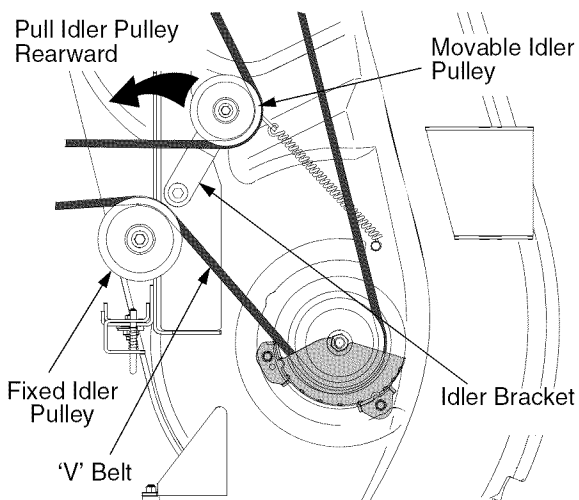

Figure 34
- Working from the middle of the tractor, pivot the idler bracket and movable idler pulley rearward away from the backside of the 'V' belt just far enough to lift the belt up and over the idler pulley. See Figure 34.
- Route the backside of the belt around the fixed idler pulley of the deck. Refer to Figure 34.
- Working from the middle of the tractor, pivot the idler bracket/movable pulley rearward against the spring tension and slide the backside of the belt onto the movable idler pulley. Refer to Figure 34.
- Make certain the belt is in the spindle pulleys of the deck, and that the backside of the belt is against both the fixed and movable idler pulleys. Refer to Figure 34.